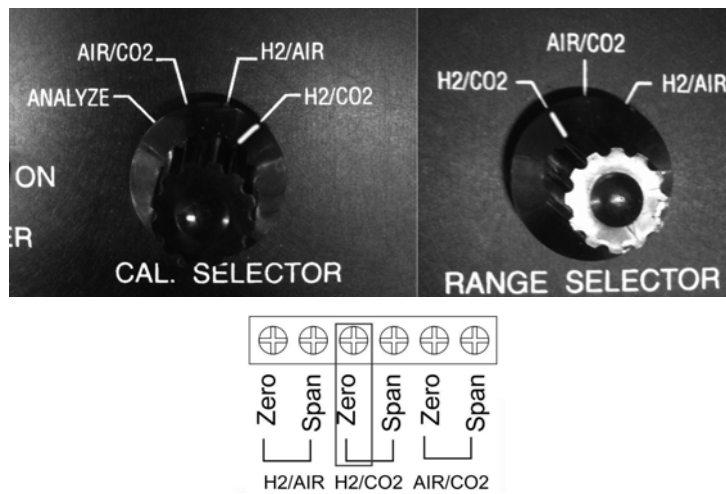

Figure 3-5: H₂/CO₂ Trim Pot
8. Move the calibration switch to the H₂/CO₂ position and verify that the range selector switch is on H₂/CO₂. Use the H₂/CO₂ zero trim pot to adjust the display to zero. See Figure 3-5